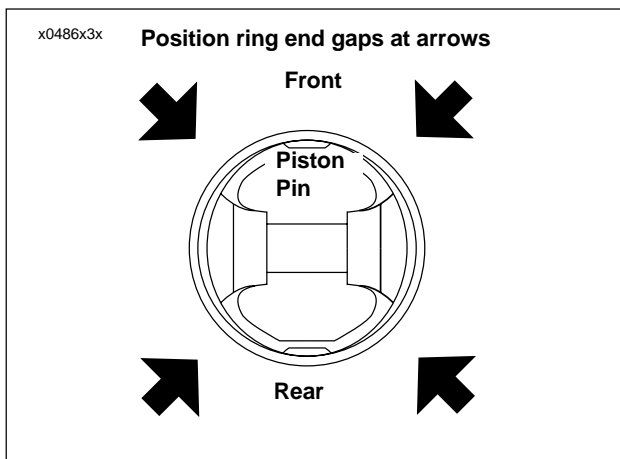

**Figure 3-97. Installing Piston Rings Transmission Shaft Retaining Ring Pliers (Part No. J-5586)**
- See Figure 3-97. Apply engine oil to piston grooves. Use TRANSMISSION SHAFT RETAINING RING PLIERS (Part No. J-5586) to slip compression rings over piston into their respective grooves. Be extremely careful not to over expand, twist rings or damage piston surface when installing rings.